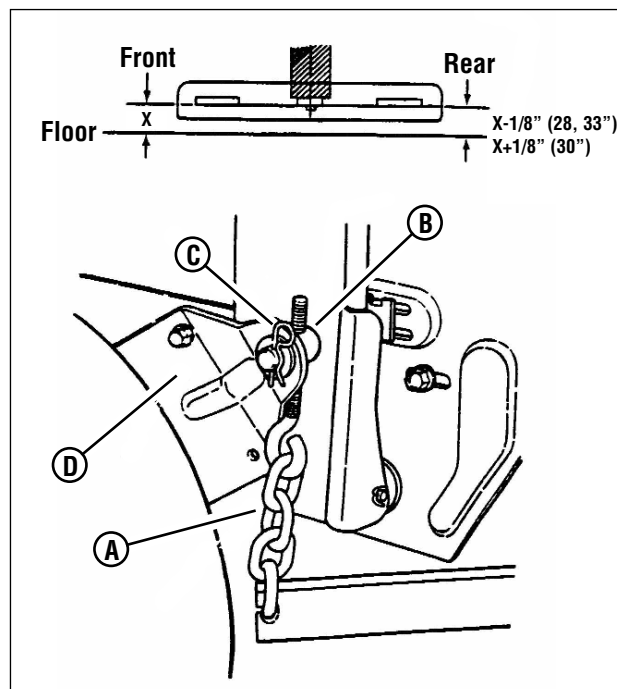

Figure 35: Adjusting the mower deck (front-to-rear)
4. Remove the rear hanger chains (**A**, **Figure 35**) and allow rear center of the deck to rest on the angle iron.
9. Readjust the rear hanger chain pivots (**B**, **Figure 35**) to align with the holes in the support brackets (**D**).
With the Rear Engine Rider on a smooth, level surface, rotate the blade until the blade tips are at the front and rear of the deck. Measure the distance from the blade tips to the floor (**Figure 35**). The distance should be the same, or the rear 1/8" to 1/4" lower than the front. If the rear blade tip is higher than the front, or is more than 1/4" lower than the front, proceed with adjustment.
With the Rear Engine Rider on a smooth, level surface, rotate the blade until the blade tips are at the front and rear of the deck. Measure the distance from the blade tips to the floor (**Figure 35**). The distance should be the same, or the rear 1/8" to 1/4" higher than the front. If the rear blade tip is lower than the front, or is more than 1/4" higher than the front, proceed with adjustment.
1. Remove the rear hanger chains (**A**, **Figure 35**).